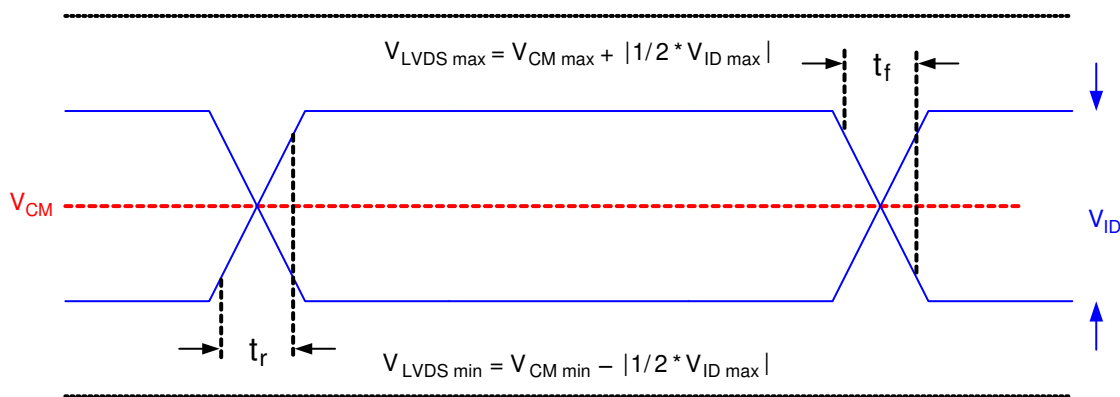

Figure 5-5. LVDS Waveform Requirements
- (8) Refer to Figure 5-5.
- (9) Simultaneous exposure of the DMD to the maximum Section 5.4 for temperature and UV illumination reduces device lifetime.